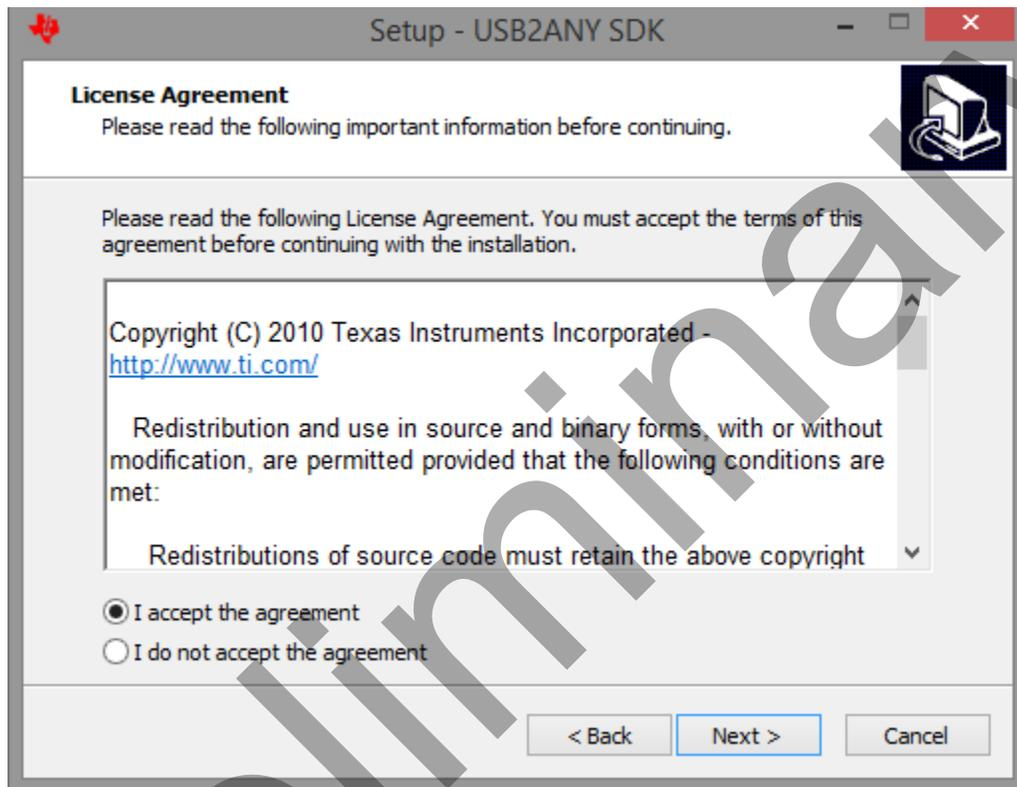

Fig 14: USB2ANY license Agreement
12. The License Agreement will appear as shown below in *Fig 14: USB2ANY license Agreement*. Please read through the agreement carefully and enable the “I Accept the License Agreement” radio button and press the **Next»** button